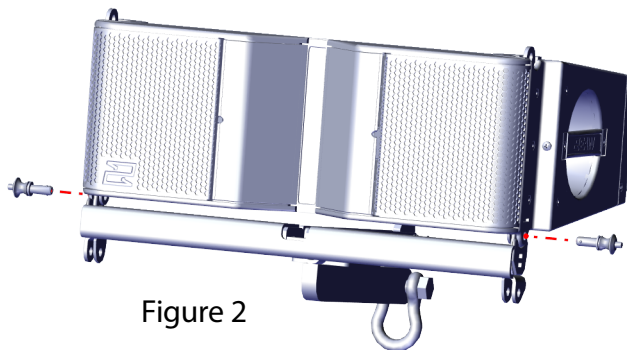

Figure 2
- Connect the flybar assembly to the most bottom cabinet in array by pinning the two front rigging positions using the pins attached to the frame (Figure 2)